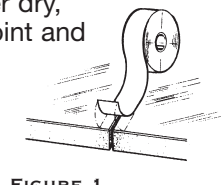

FIGURE 1
2. Center THERMAX™ Aluminum Foil Tape over dry, clean edge joint and apply tape (Figure 1).
4. Center THERMAX™ White Foil Tape over dry, clean edge joint and apply tape (Figure 1).
2. Center THERMAX™ White Foil Tape over dry, clean edge joints and apply tape (Figure 1).